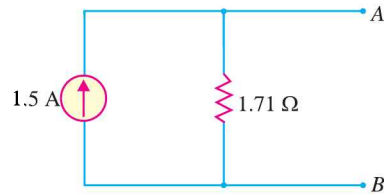

Fig. 1.51
- Fig. 1.51 shows Norton's equivalent circuit of a network behind terminals A and B . Convert it into Thevenin's equivalent circuit. [2.56 V in series with 1.71 Ω]